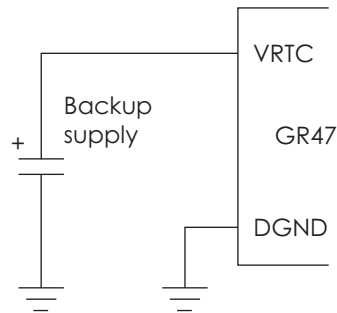

Figure 5.13 RTC connections
- RTC back-up mode: VCC is disconnected and the RTC is maintained by a separate backup power supply connected to the VRTC input (see Figure 5.13 below).